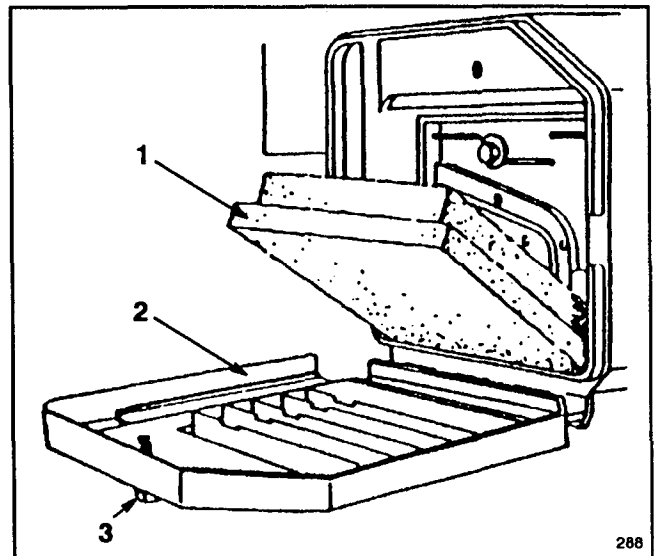

Figure 19
2. Rotate knob securing air cleaner cover to engine until cover can be removed. Clean cover thoroughly (Fig. 19).
3. If the foam element is dirty, remove it from air cleaner body (Fig. 19). Clean thoroughly.